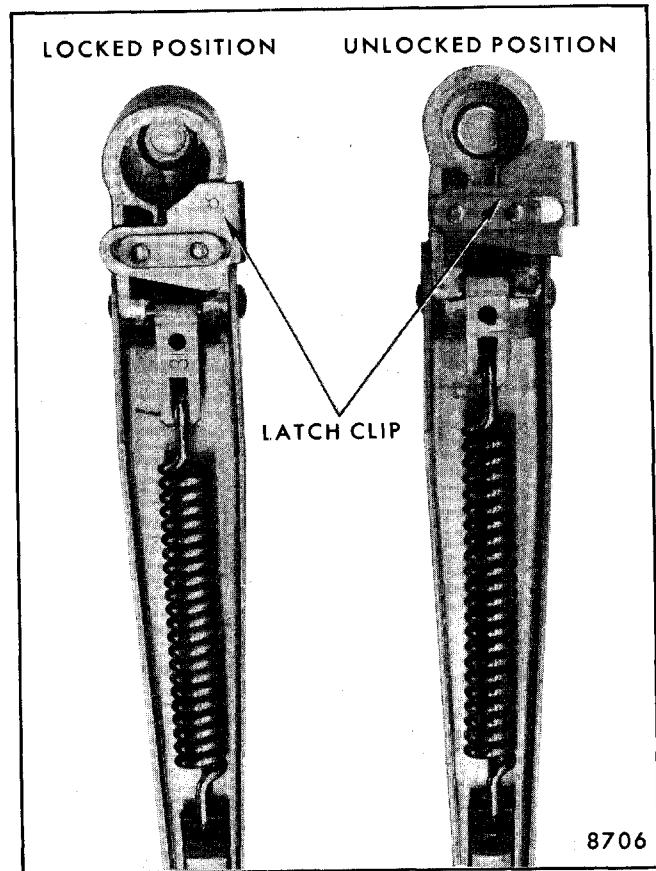

Fig. 2-59 - Wiper Arm Latch Clips B, C, D, K Styles, A Style Similar
3. On A, B, C, D, E and K styles, lift wiper arm and slide latch clip (Fig. 2-59) out from under wiper arm.
10. On B, C, D, E and K styles, lift the wiper arm assemblies and slide latch clips (Fig. 2-59) under the arms. Release wiper arms and check wipe pattern and park position.